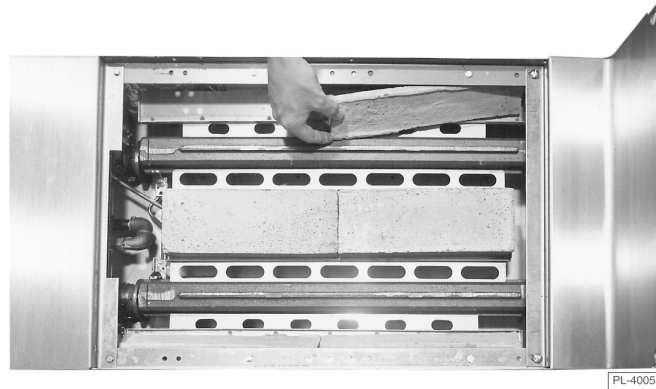

Fig. 15
3. Triangle-shaped Bricks (4) — Place two each side (Fig. 15).